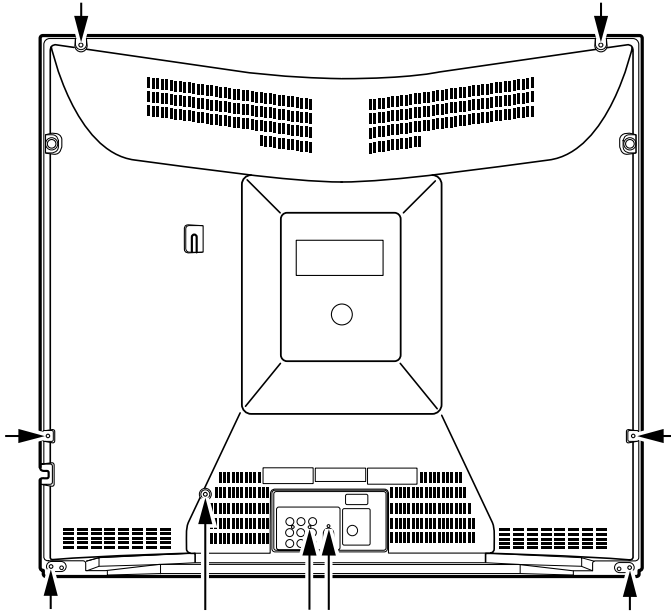

Figure 1. Cabinet Back Removal
1. Refer to Figure 1, remove 9 screws.